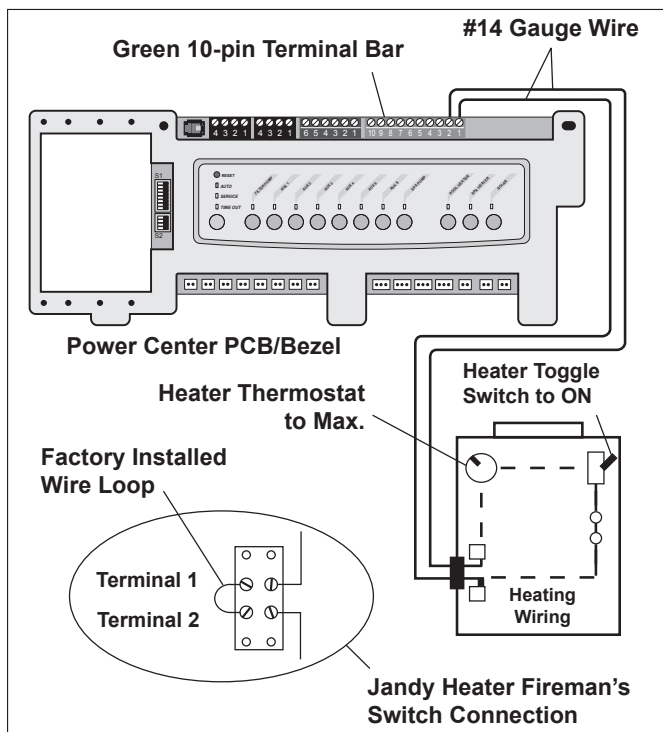

Figure 4. Jandy Heater Connection
1. If you are connecting a Low Voltage pool heater (for example, a Jandy Brand heater), connect two #14 gauge wires, designed for use in hot environments, to the proper terminals on the 10 pin terminal bar (see Figure 4). If you are connecting a High Voltage pool heater, contact Jandy for instructions.